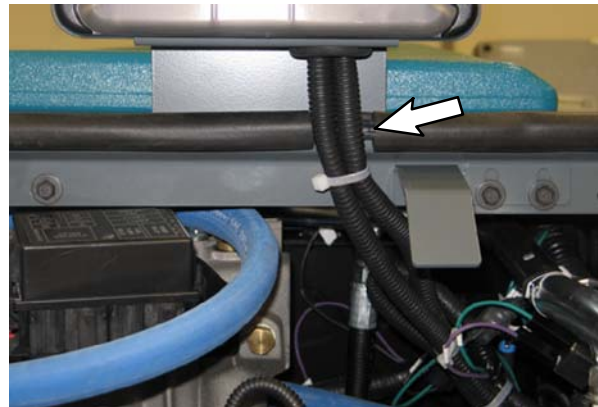

FIG. 5
9. Cut 44 mm (1.75 in) notch into seal to allow space for routing flashing / strobe light / backup alarm jumper harness. (Fig. 5)